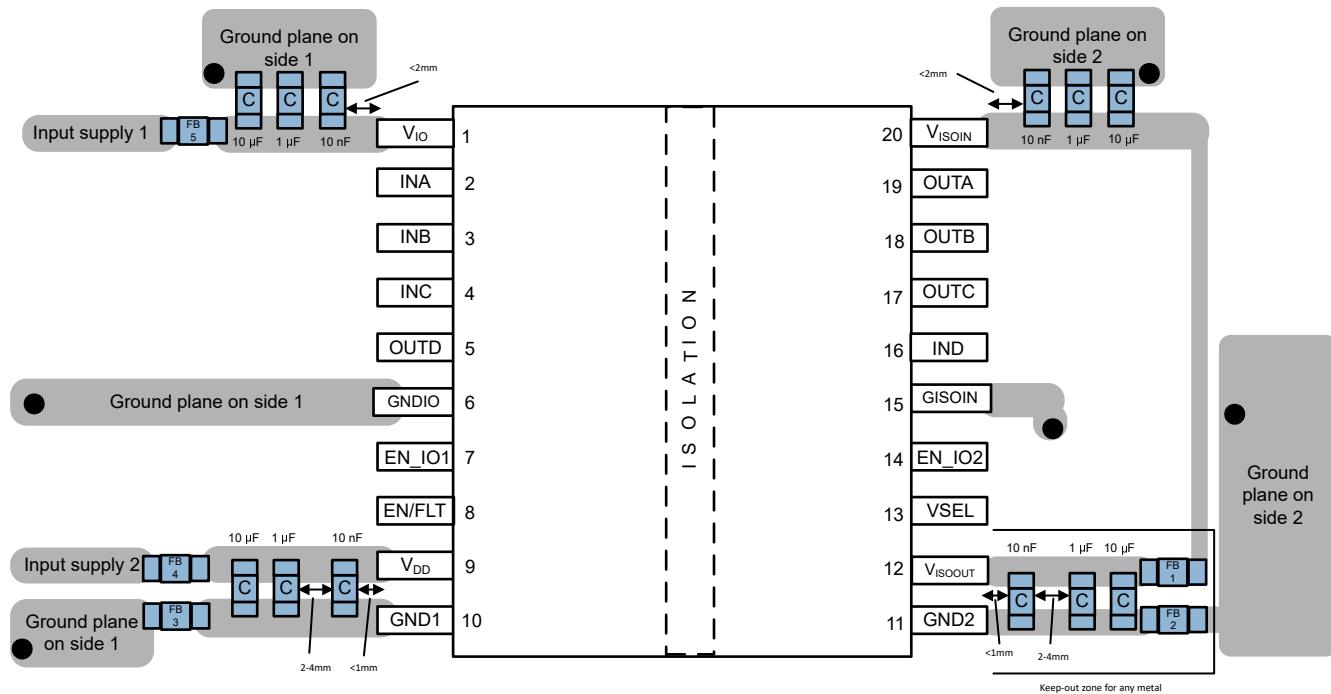

Figure 12-1. Layout Example
**Figure 12-1** shows the recommended placement and routing of device bypass capacitors. Below guidelines must be followed to meet application EMC requirements: